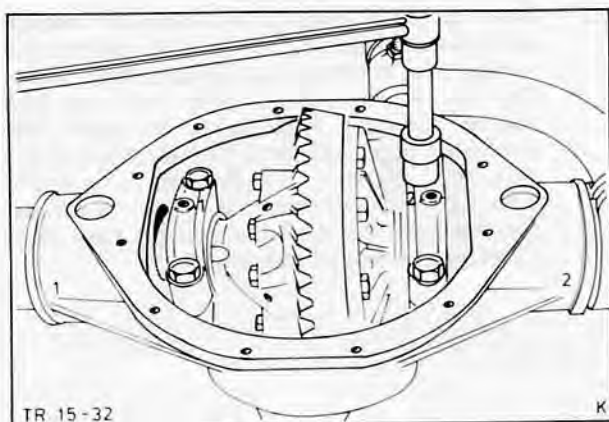

Fig. 51. Fit bearing caps (numbers match) and torque bolts as specified
37. Fit shim in axle casing. Insert differential with both adjusting nuts. Fit bearing caps, secure, slacken and then do up finger-tight, Fig. 51.